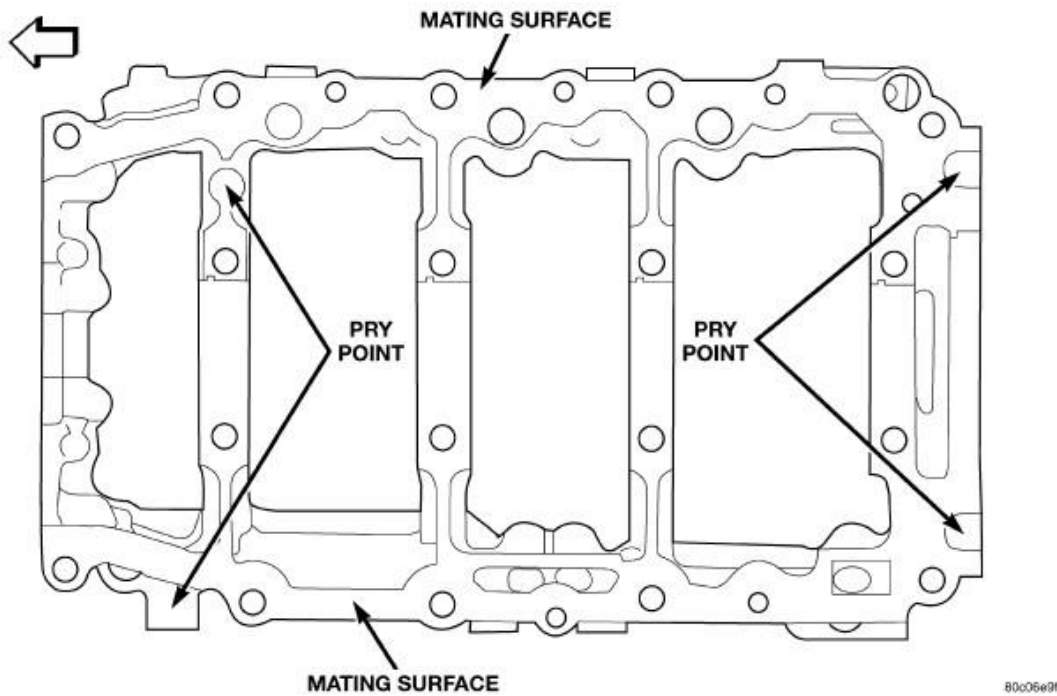

Fig. 81: Pry Points On Bedplate
5. Carefully pry on the pry points to loosen the bedplate then remove the bedplate. Refer to **Fig. 81**.